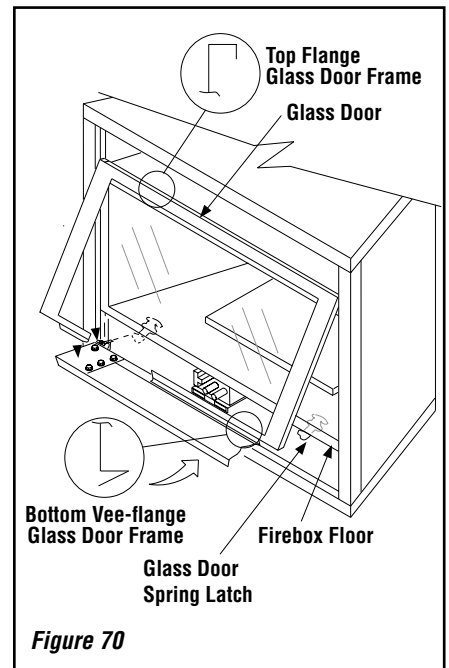

Figure 70
Removing Glass Enclosure Panel (see Figure 70)
Locate the two (2) glass door spring latches at the top of the control compartment (see Figure 70). Pull out each spring latch until it disengages from the door frame bottom vee-flange. Remove the door by tilting it outward at the bottom and lifting it up. Set the door aside, taking care to protect it from inadvertent damage.
Installing Glass Enclosure Panel (see Figure 70)
Position the door in front of the firebox opening with the bottom of the door held away from the fireplace (Figure 70). Hook the top flange of the door frame over the top of the firebox frame.